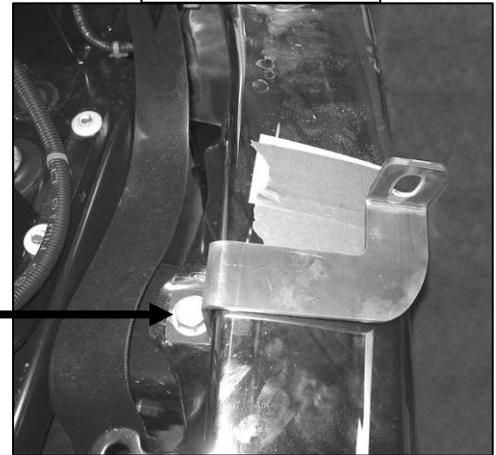

Figure 4
- Locate the two top existing frame bolts and remove them from vehicle. Position Top Brackets onto frame and secure them using the previously removed frame bolts (Fig 4). Do not tighten at this time.